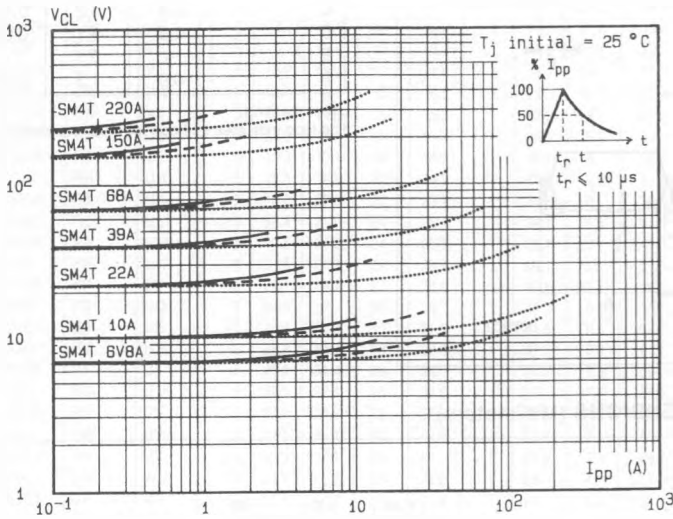

Fig.2 - Clamping voltage versus peak pulse current.
Note : The curves of the figure 2 are specified for a junction temperature of  $25$  °C before surge. The given results may be extrapolated for other junction temperatures by using the following formula :  $\Delta V (BR) = \alpha_T (V (BR)) \times [T_j - 25] \times V (BR)$